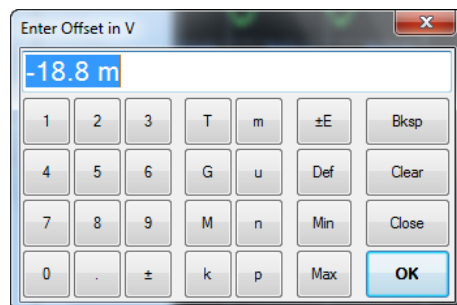

Figure 2-16 Vertical offset keypad dialog for the video input channel
- 10 The vertical offset keypad dialog for the video input channel is displayed as shown in Figure 2-16.